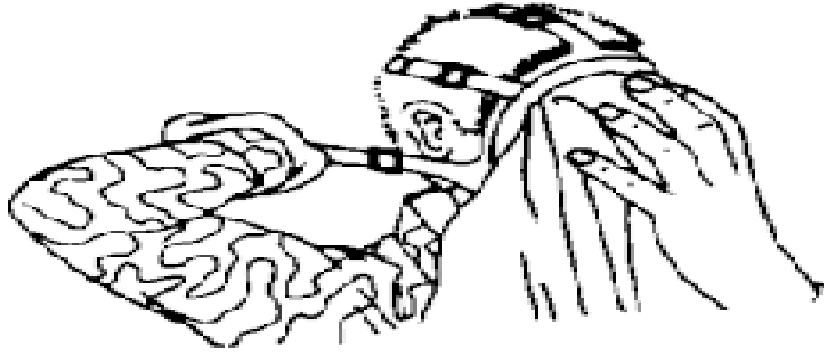

Figure E-65. Tighten cheek straps.
- (1) Pull the head harness over your head after grasping the tab.
- (2) Position the harness so that your ears are between the temple straps and the cheek straps.
i. While holding the head pad centered on the back of the head, uses the other hand to tighten the cheek straps one at a time (figure E-65).